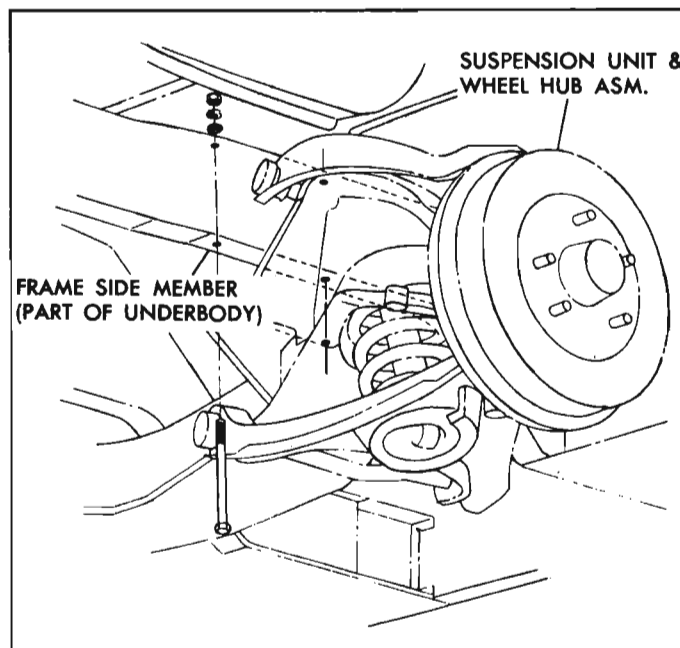

Fig. 3-63—Front Crossmember Mounting
4. Place a suitable lifting device under crossmember and remove the four bolts (2 per side—fig. 3-63) holding crossmember to frame section of underbody; assembly may now be removed from vehicle.